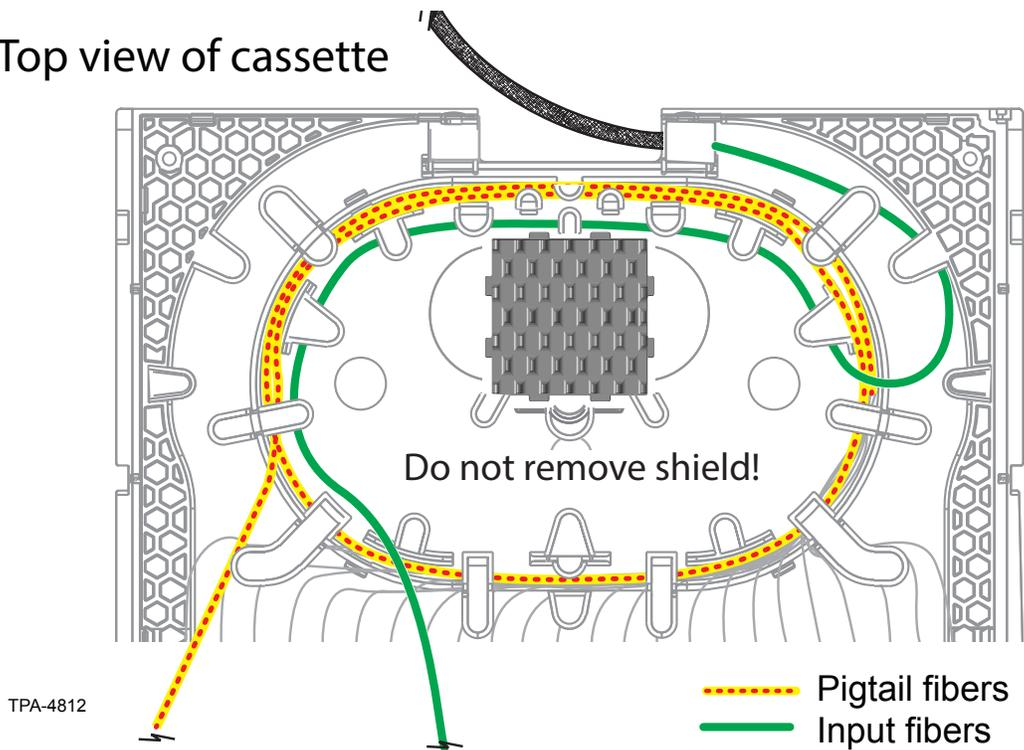

Figure 54
**Step 8:** Uncoil two loops of pigtail fibers from inside the cassette (Figure 54). Do NOT lift the plastic shield or remove fibers from beneath it.